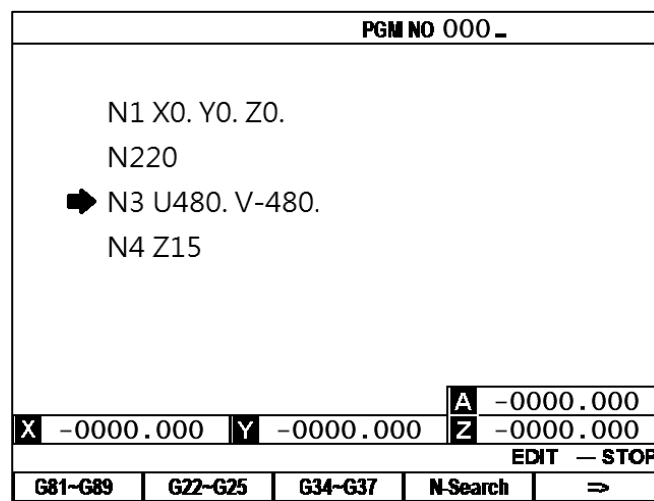

Fig.2-24
3. Key "F" without numbers and press INPUT key, LCD displays as Fig 2-24.